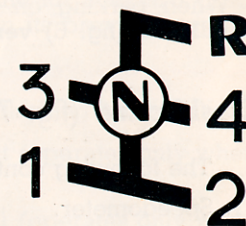

Figure 5
The gear shift can be moved along three parallel lines (fig. 5).
- completely pushed upwards (fig. 5);